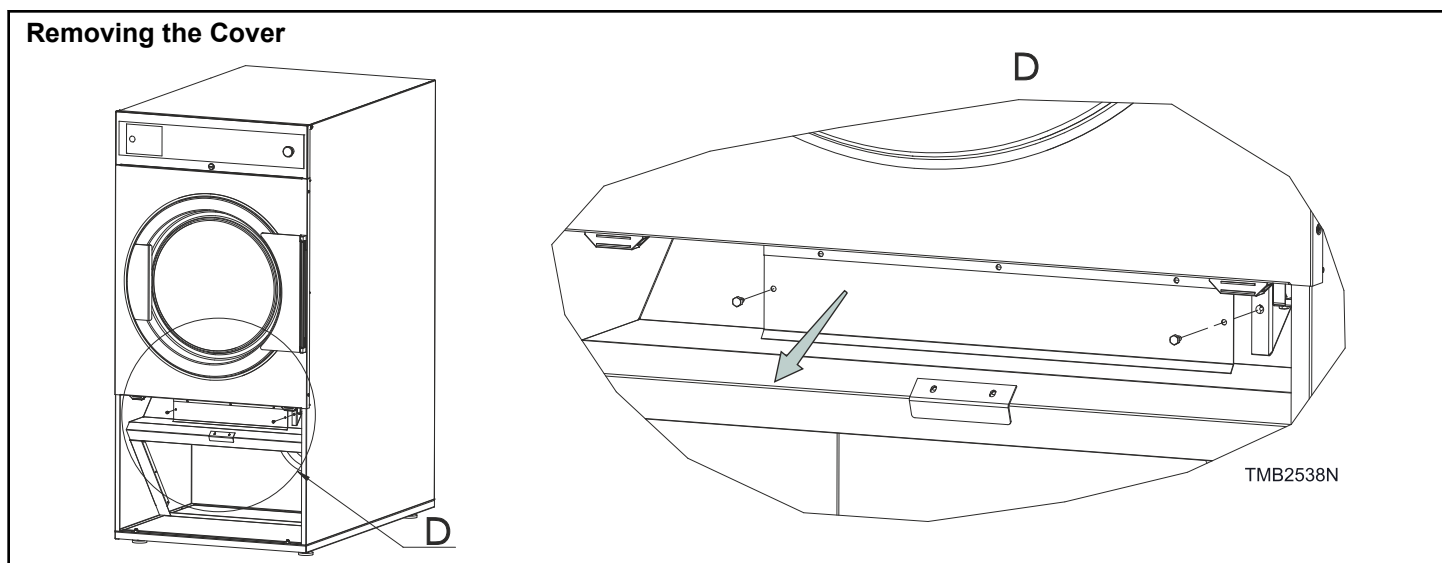

Figure 24
5. Remove the cover below the drying drum. Refer to *Figure 24*. Not valid for 9 kg / 20 lb / 195 L.